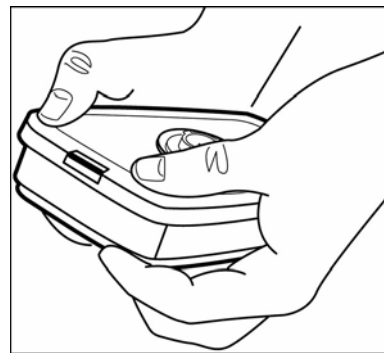

Fig. 5
2. Engage back snap by squeezing backside of cartridge and adapter together using the same hand positions. An audible click should be heard as each snap is engaged. (Fig. 5)